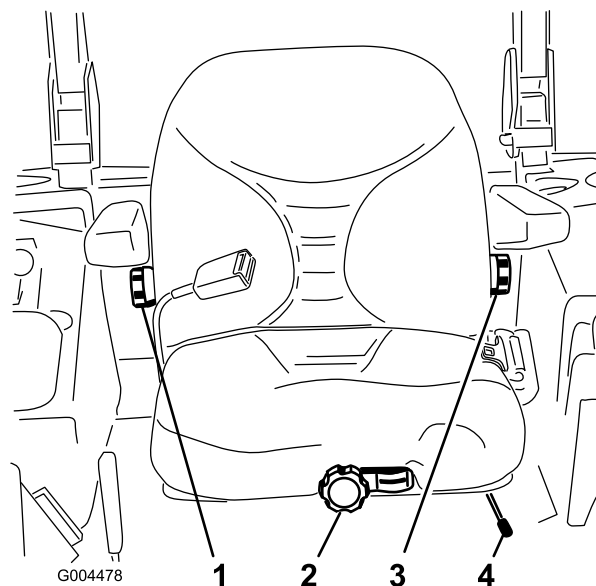

Figure 30
1. To adjust, move the lever sideways to unlock the seat (Figure 30).
Without sitting on the seat, turn the knob in front either direction to provide the best comfort (Figure 30).
To adjust it, turn the knob, under the right-side arm rest, in either direction to provide the best comfort (Figure 30).
To adjust it, turn the knob, under the left-side arm rest, in either direction to provide the best comfort (Figure 30).